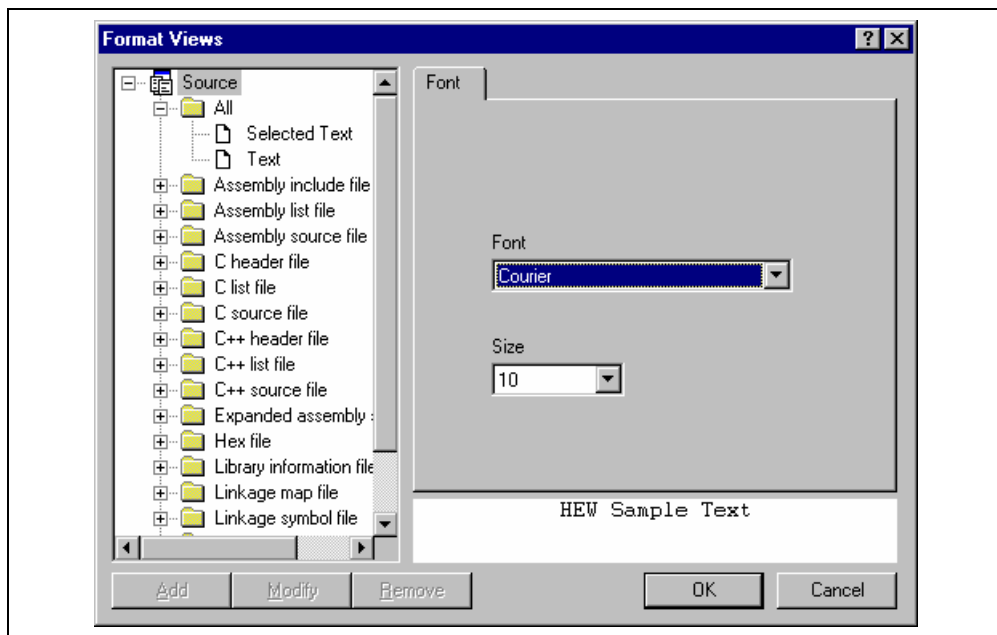

Figure 4.10: Format Views Dialog Font Tab
1. Select **[Tools->Format Views...]**. The “Format Views” dialog will be displayed. Select the Source icon in the tree (figure 4.10).